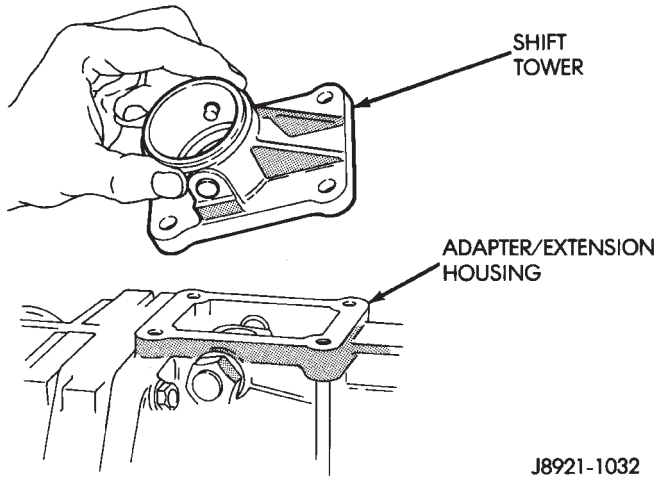

Fig. 128 Shift Tower Installation
(29) Install shift tower (Fig. 128). Tighten tower attaching bolts to 18 N•m (13 ft. lbs.) torque.
(30) Install new gasket on backup light switch and install switch. Tighten switch to 37 N•m (27 ft. lbs.) torque.
(31) Install new washer on drain plug. Then install and tighten plug to 37 N•m (27 ft. lbs.) torque.
(32) If transmission will be filled with gear lubricant before installation, place transmission in a level position. Then fill with Mopar 75W-90, grade GL-5 gear lubricant. Correct fill level is to bottom edge of fill plug hole.